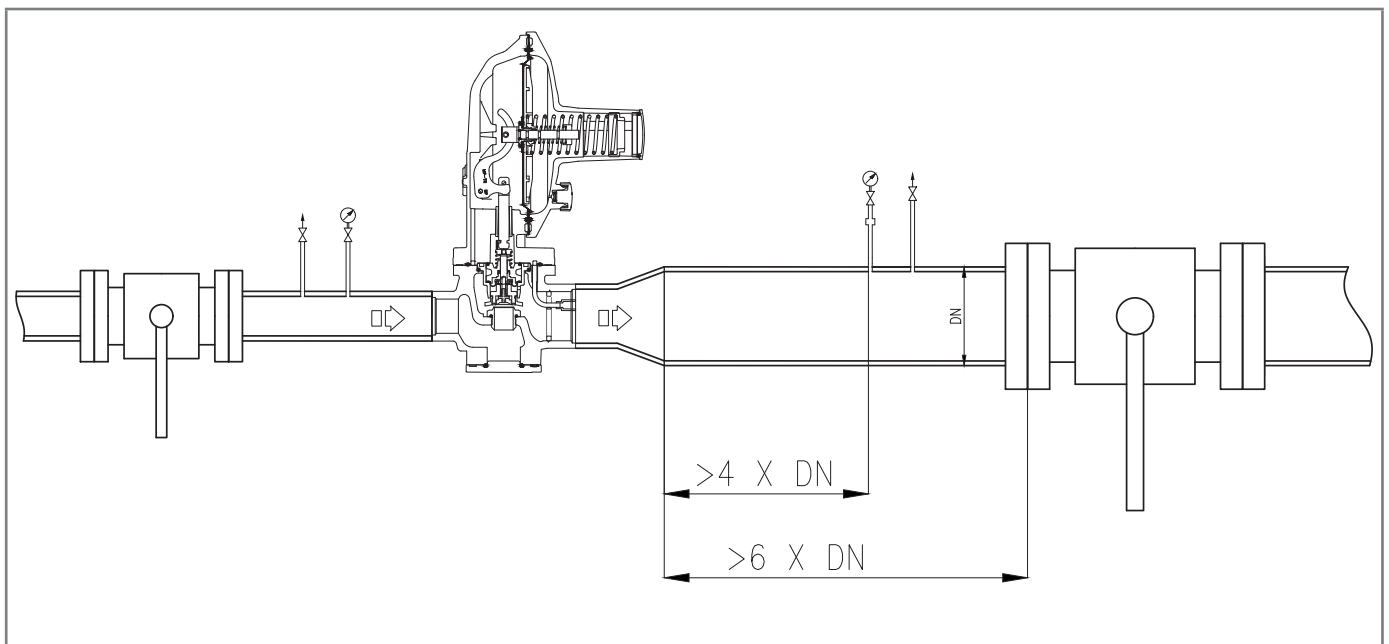
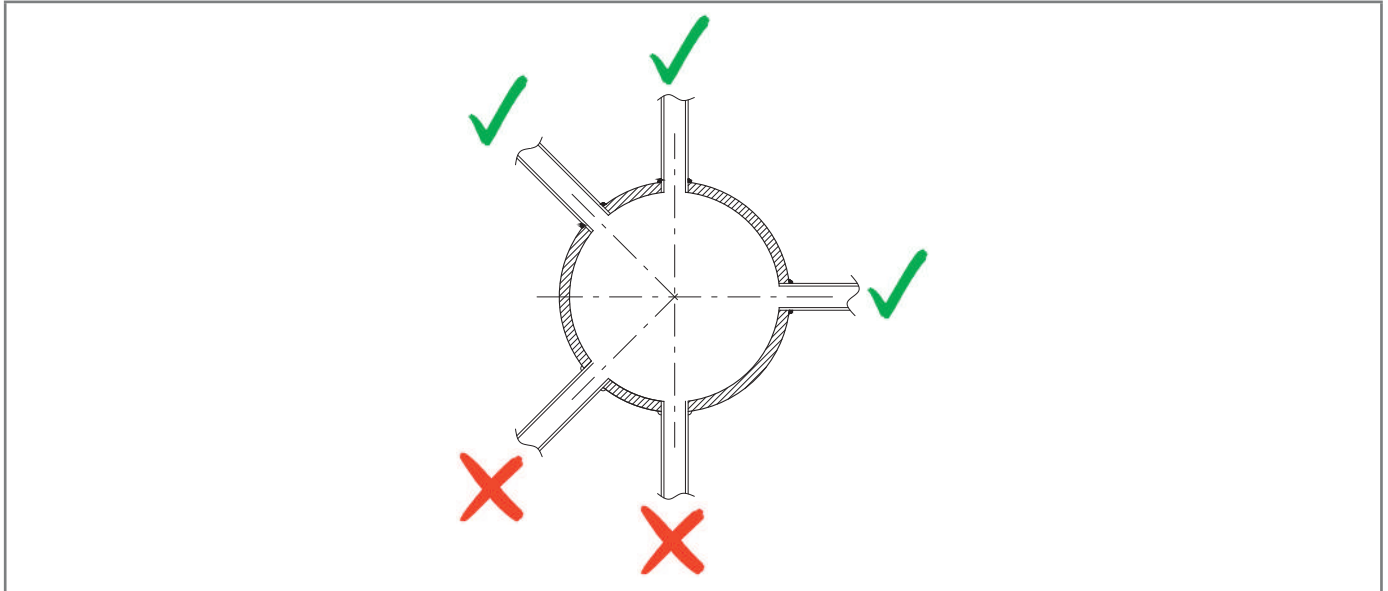

Fig. 6.13. Connection of sensing lines to the downstream piping DIVAL 500
Fig. 6.15. Welded pipe connections
For the Dival 500 equipment the sensing lines are internal (Fig. 6.13), for the Dival 500 with inline monitor function the sensing lines are external ().
- the connections of the pneumatic connection are always welded to the top or horizontal axis of the pipe itself (refer to Fig. 6.13 and Fig. 6.15);